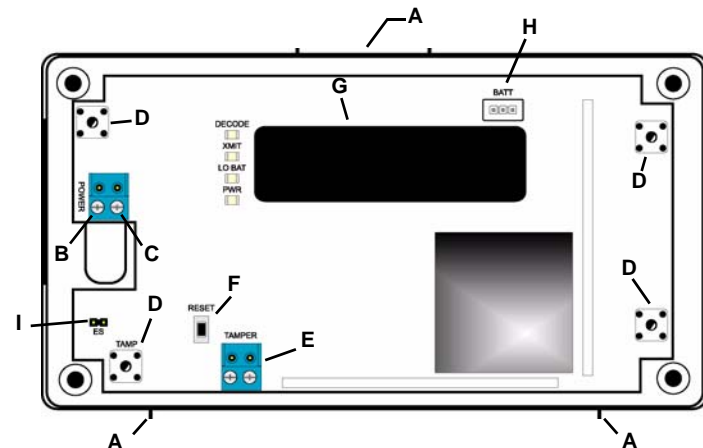

Figure 1 EE5000 Components
1. Use a small screwdriver to press the housing release tab on the top or bottom of the repeater (Fig. 1); separate the housing.
2. Connect power cabling to the Vs and GND connections (Fig. 1).
1. Plug the connector cable from the backup battery into the battery connector (Fig. 1).
1. To enable compatibility with ES products, place a selection jumper on the enable EchoStream selection pins (Fig. 1).
2. If no ES products are used in your system, remove the selection jumper from the EchoStream selection pins (Fig. 1).